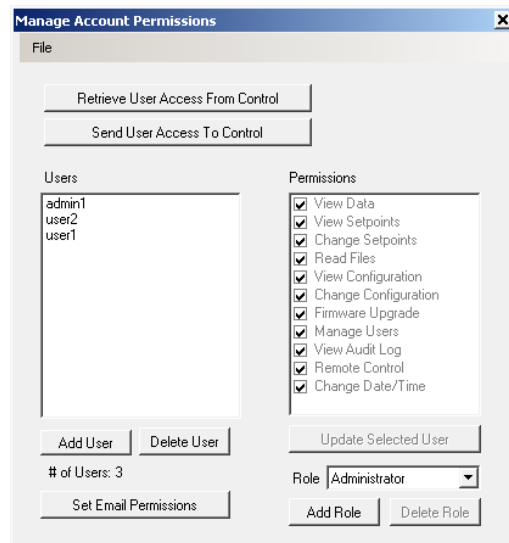

Figure 3-6 Manage Account Permissions Retrieved from Control Screen
8. When all Password criteria have been met, then select **Add**. IPScom will return to the "Manage Account Permissions" screen (Figure 3-6) and display the new User.